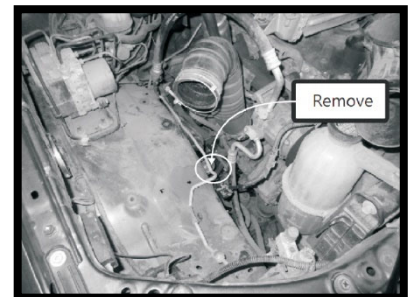

Fig 2: Remove mounting bolt
13. Remove the air filter housing to allow for the removal of the bolt (Fig 2).